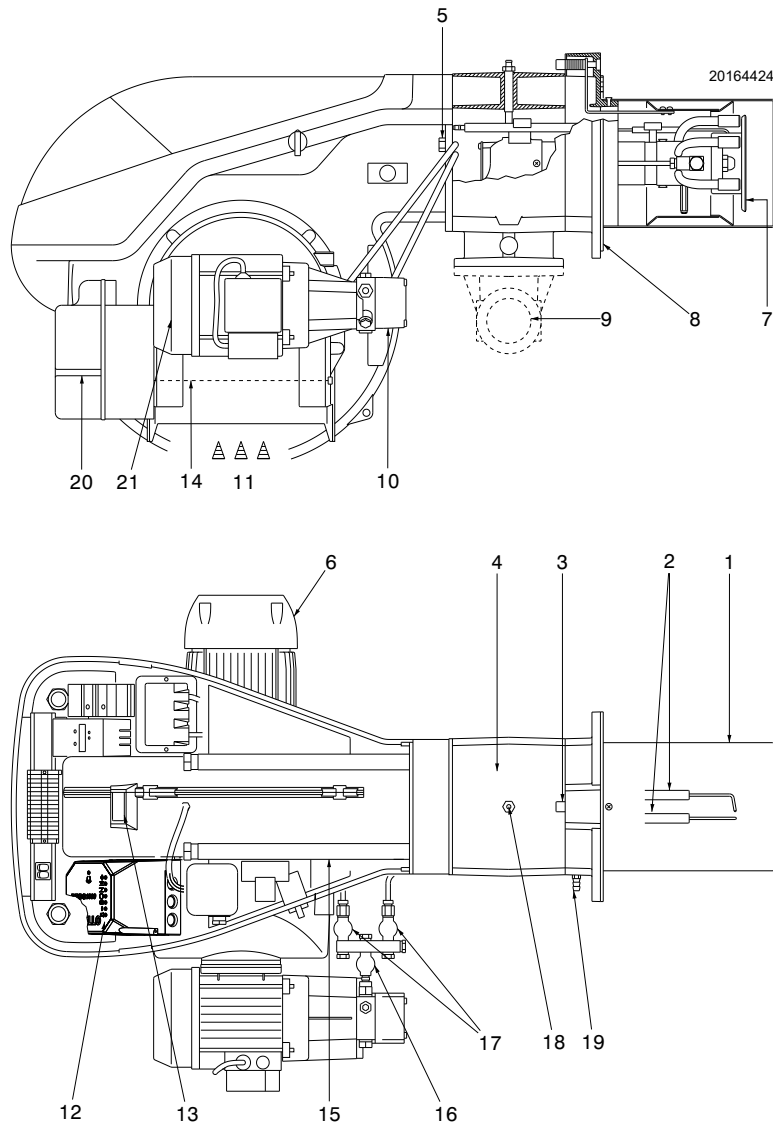

Fig. 4
(1) Reference conditions: Ambient temperature 20°C - Gas temperature 15°C - Barometric pressure 1013 mbar - Altitude 0 m a.s.l.
(2) Pressure at test point 18)(Fig. 4 on page 13) with zero pressure in combustion chamber and at maximum burner output.
(3) Sound pressure measured in manufacturer's combustion laboratory, with burner operating on test boiler and at maximum output. The sound power is measured using the "Free Field" method, required by the EN 15036 standard, and according to an "Accuracy: Category 3" measurement, as described in EN ISO 3746.
(4) Blast tube: short-long
if the control box 12)(Fig. 4) push-button lights up, it indicates that the burner is in lockout.